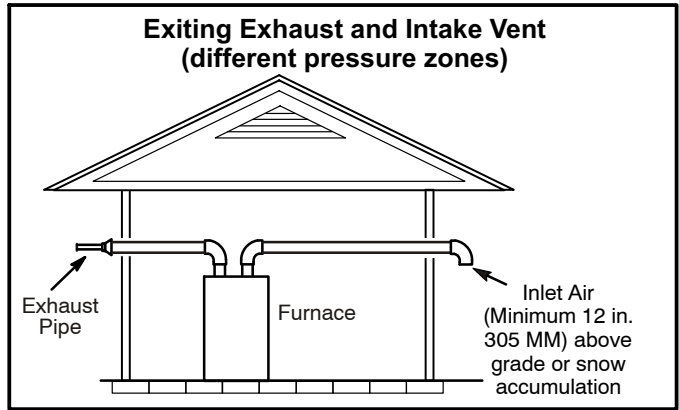
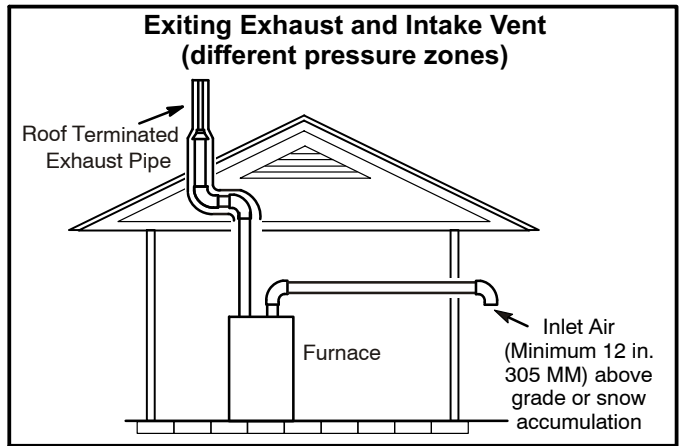

FIGURE 36
FIGURE 37
1. Intake and exhaust terminations are not required to be in the same pressure zone. You may exit the intake on one side of the structure and the exhaust on another side (figure 36). You may exit the exhaust out the roof and the intake out the side of the structure (figure 37).